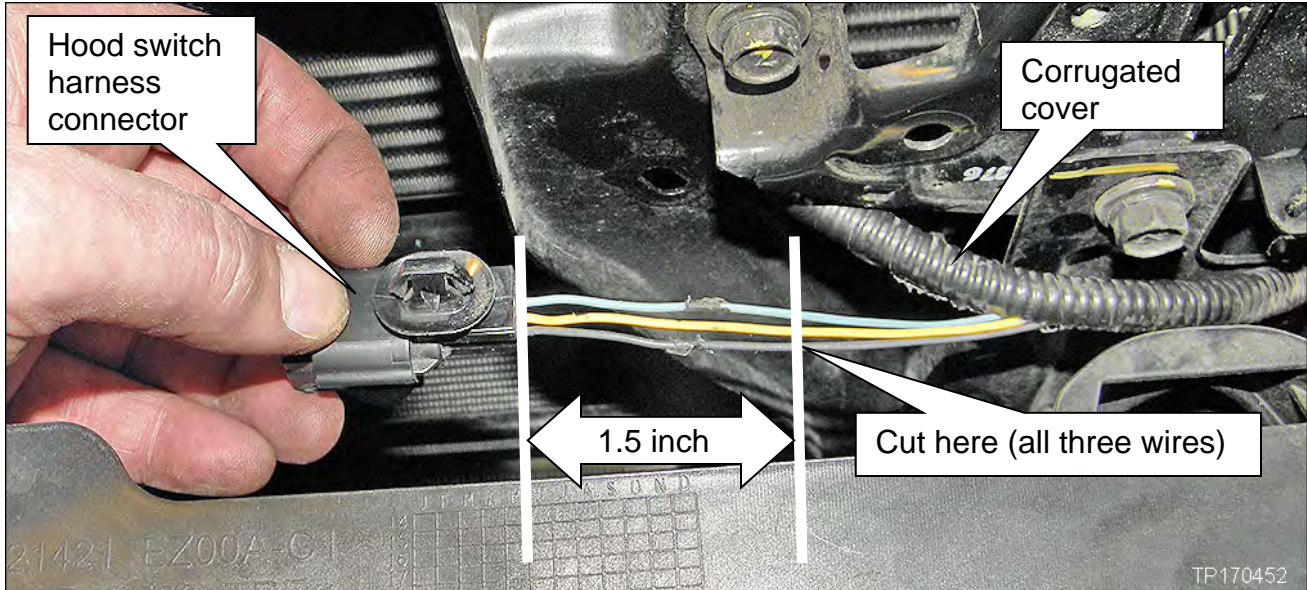

Figure 3
4. Remove electrical tape and separate a few inches of wire from the corrugated cover as shown in Figure 3.
5. Measure 1.5 inch from the connector and cut the wires (see Figure 3).